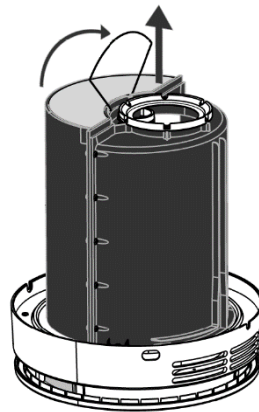

Figure 32 - Remove the outside filter
5. Open the metal brace keeping the outside filter in place, see Figure 32 below. Take out the old filter and remove any dirt with a dry rag. The spent filter can be disposed of as household waste.